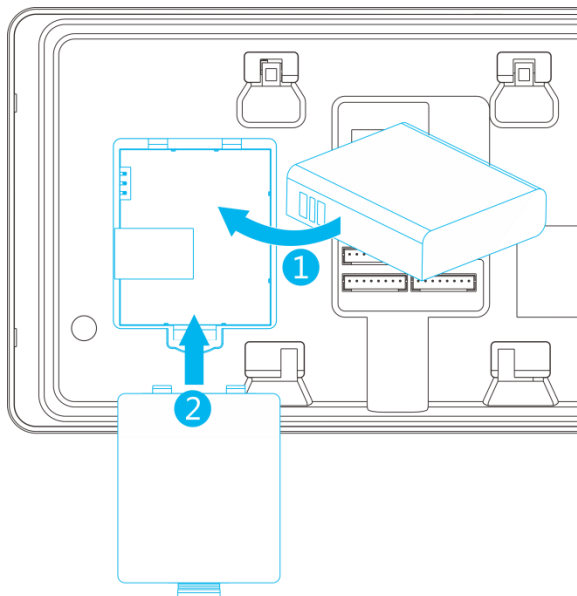

Figure 3-3
Step 1 Put the battery into battery box in accordance with arrow direction in Figure 3-3.